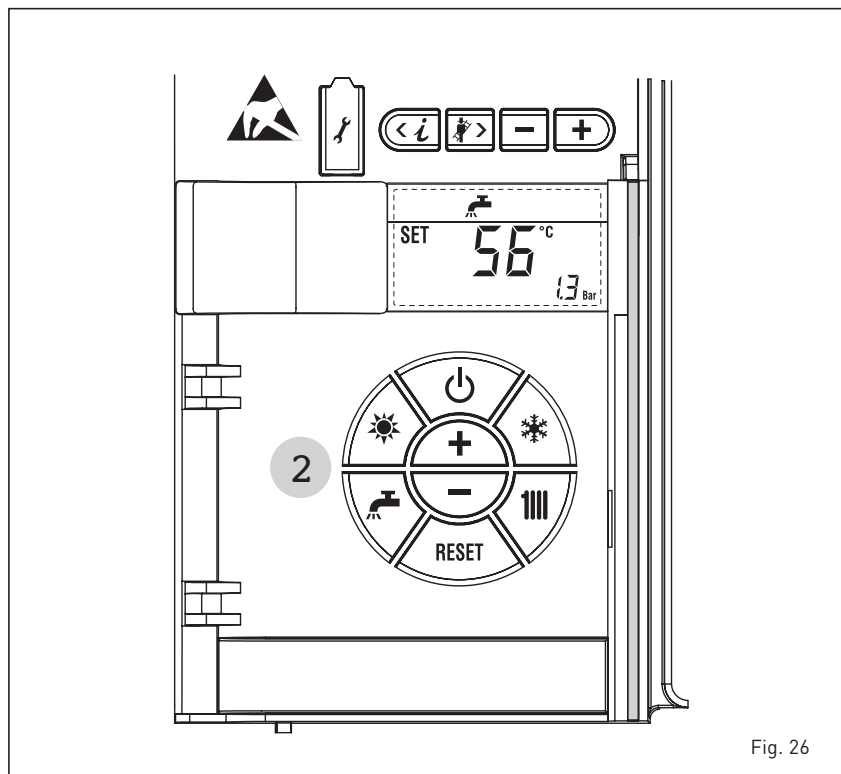

Fig. 26
If an external sensor is installed, the value of the output temperature is automatically chosen by the system, which quickly adjusts the environmental temperature on the basis of the external temperature. If you wish to change the value of the temperature, increasing or decreasing that calculated automatically by the electronic card, proceed as indicated in the preceding paragraph. The level of various correction of a value of temperature proportional calculated. The display will be as shown in fig. 26/a.
**REGULATION D.H.W. TEMPERATURE (fig. 26)**